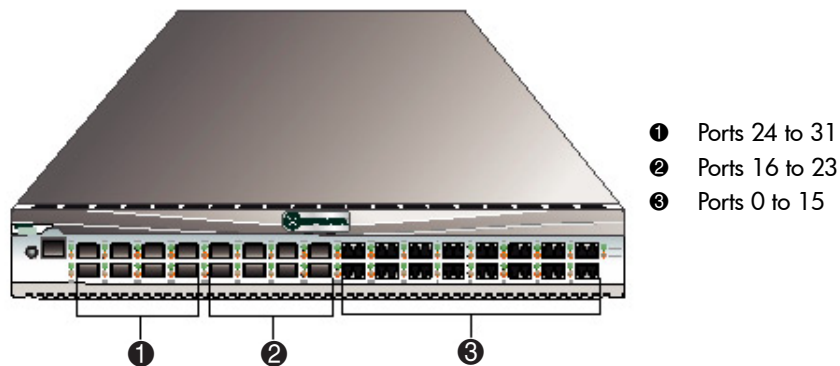

Figure 1: Edge Switch 2/32 port locations
Blue text: Figure 1	Cross-reference links
Ports 0 through 15 of the Edge Switch 2/32 are populated when you receive it (Figure 1, reference ③).
1. Insert 8 new SFP transceivers into ports 16 through 23 (Figure 1, reference ②).
Ports 0 through 23 should be populated after you have completed the procedure described in “Upgrading to 24 Ports” on page 13 (Figure 1, reference ② and ③).
1. Insert 8 new SFP transceivers into ports 24 through 31 (Figure 1, reference ①).